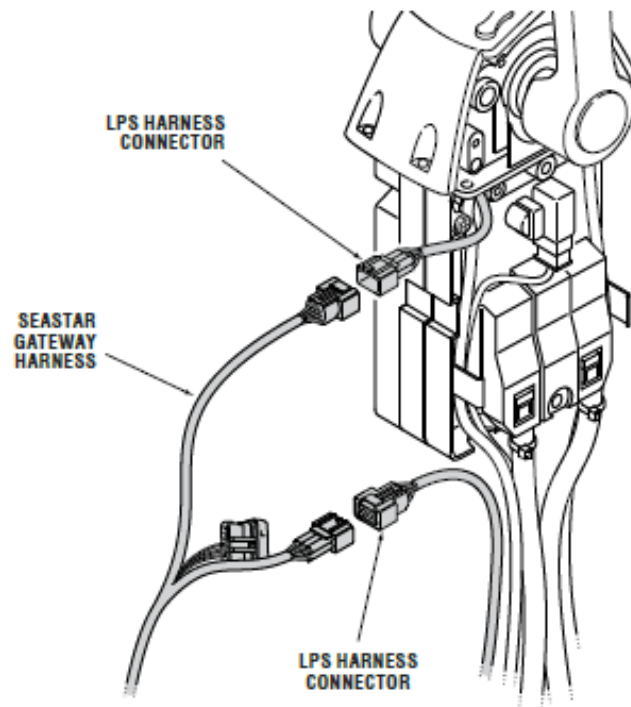

Figure 7-3. Gateway harness connection.
7. Connect the SeaStar gateway harness as shown in figure 7-3. Port harness is identified 'P_LPS' and the starboard harness is identified 'S_LPS.'